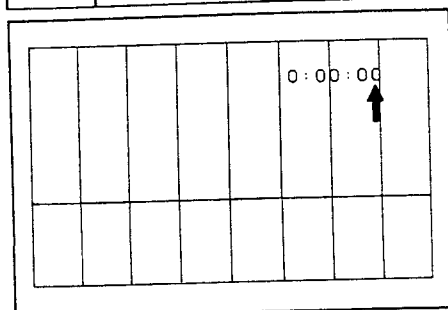

Fig. II-89
- (1) Connect the pin 4 of IC802 (Audio P.C.B.) to ground via a resistor of 10 Kohms.
- (2) Playback the alignment tape.
- (3) Observe the waveform at pin 4 of Audio P.C.B. while monitoring the playback sound.
- (4) If the waveform is not clear (doubled, etc.) and/or there is a noise in playback sound, adjust the VR801 to make the waveform as shown in the Fig. II-89.